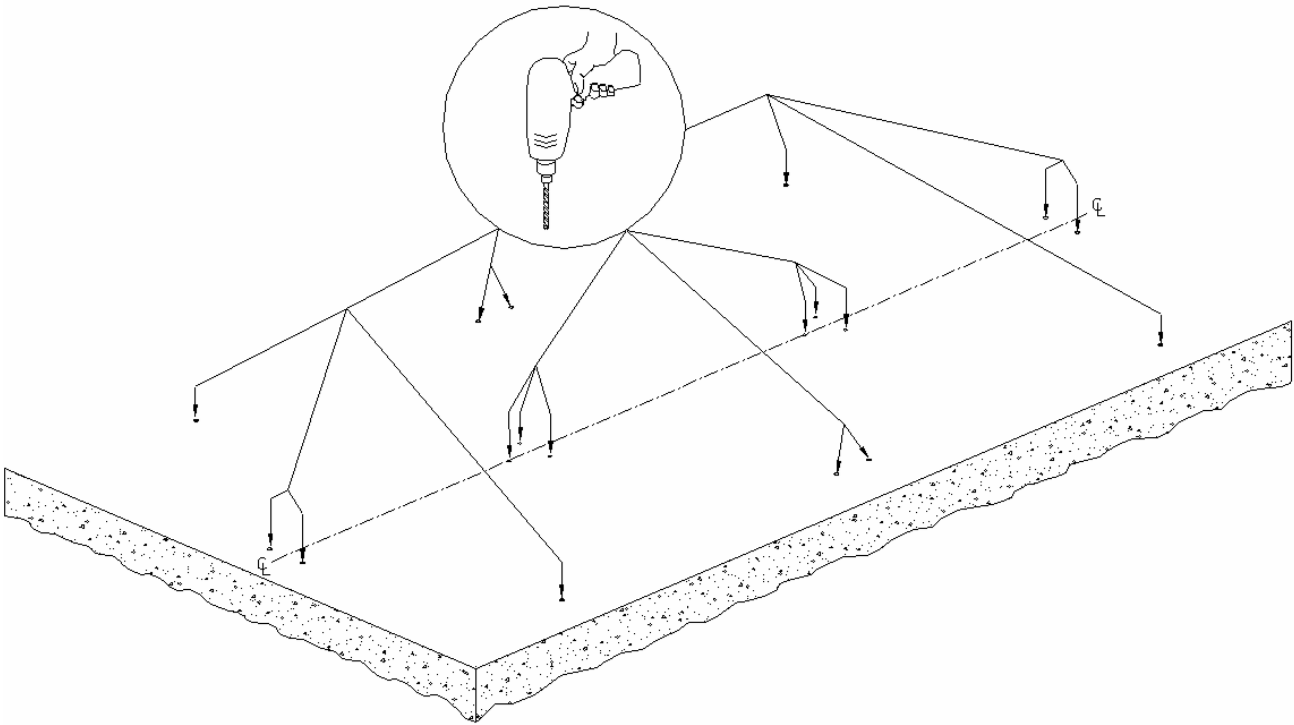

Figure 6
8. Remove bottom plate, tools and any other material and drill (18) 3/8" holes, 4 inches deep for anchor studs. Four holes for middle barrier posts, three holes for each bottom plate, four holes for right side shield assembly, and four holes for left side shield assembly. See Figure 6. Clean holes after drilling.